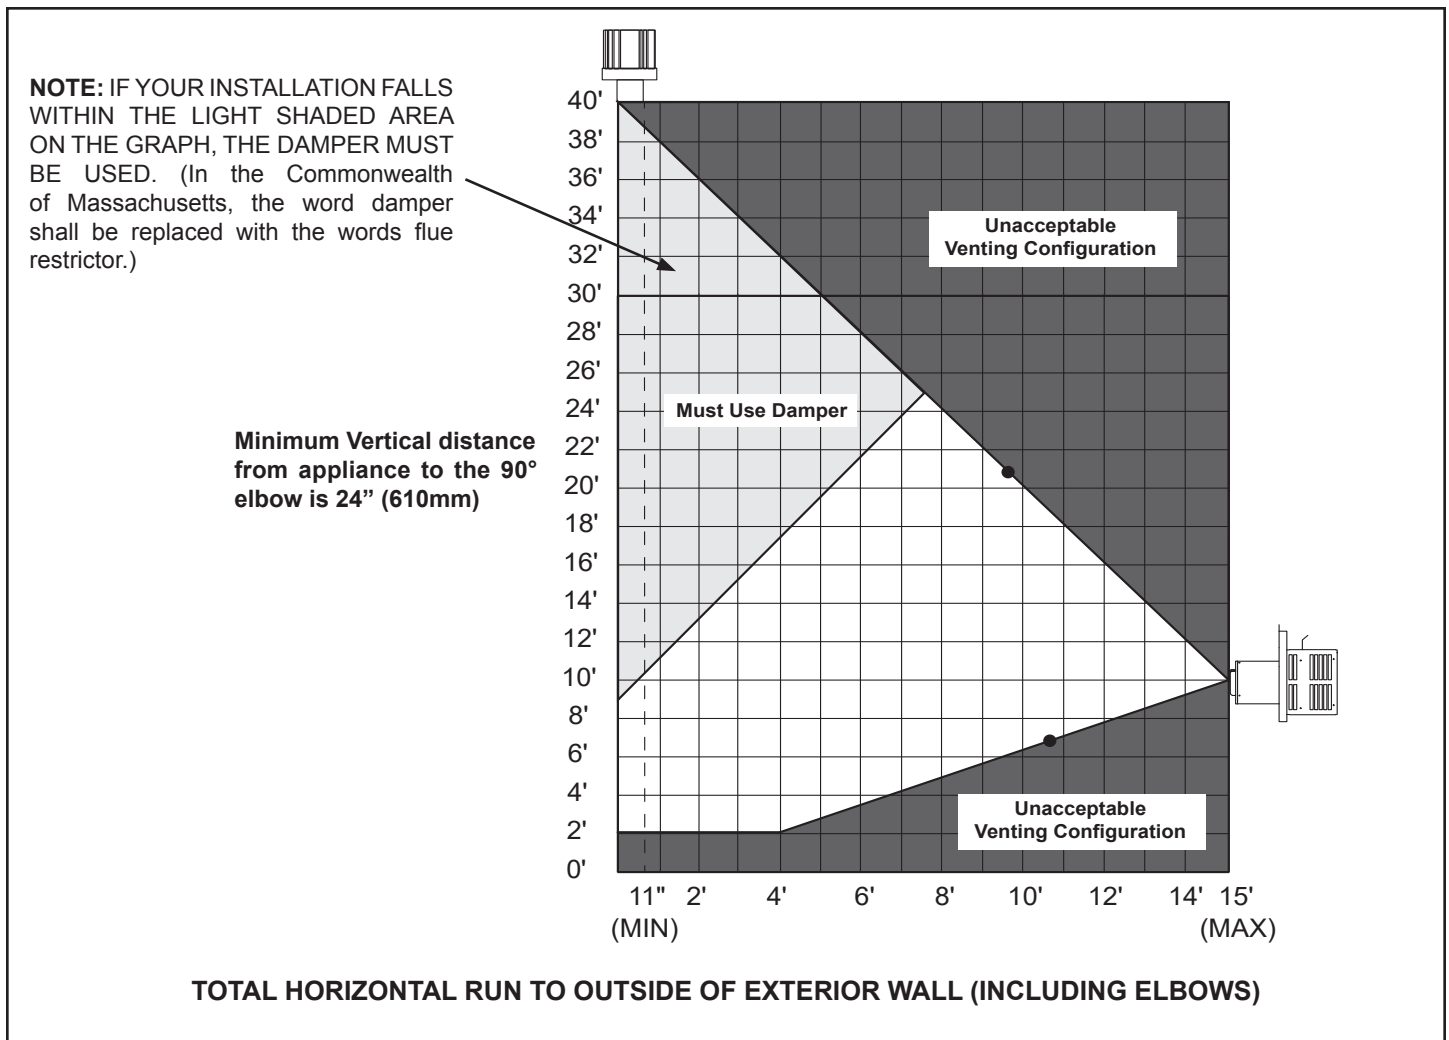
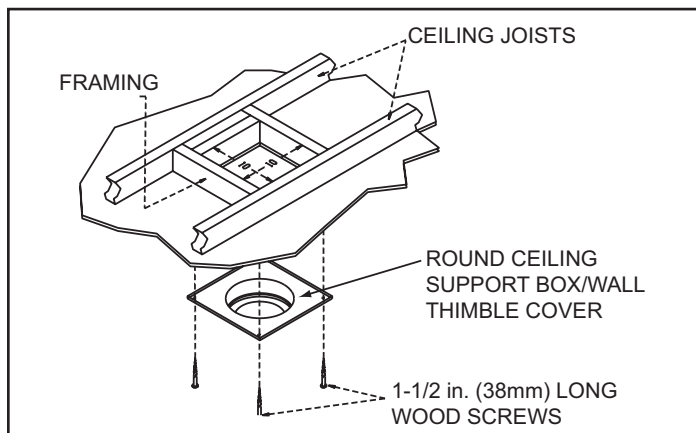
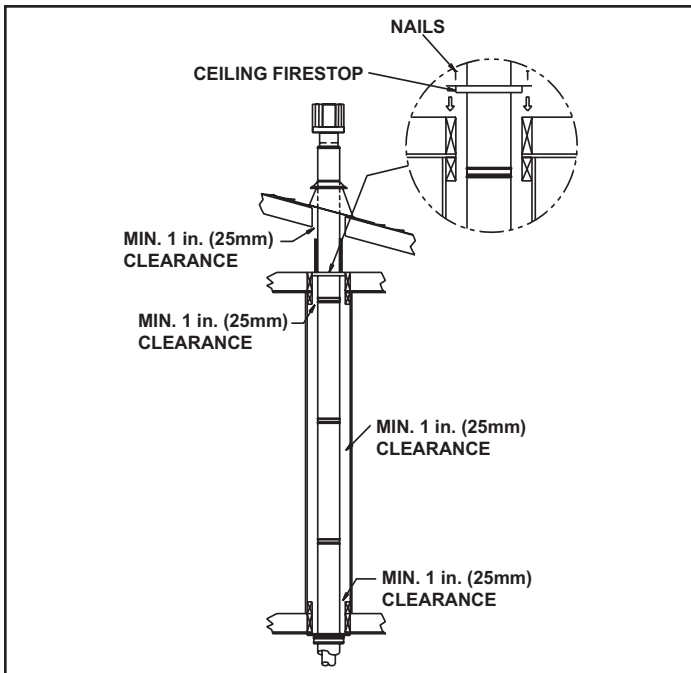

Figure 5.2
Figure 5.13
Figure 5.16
Step 1 - Check the installation instructions for required 1 in. (25mm) clearances (air space) to combustibles when passing through ceilings, walls, roofs, enclosures, attic rafters, or other nearby combustible surfaces. See Figure 5.16. Check the instructions below for maximum vertical rise of the venting system, and any maximum horizontal offset limitations. All offsets must fall within the set parameters of the vent graph, Figure 5.2.
Step 3 - To install the round support box/wall thimble cover in a flat ceiling, cut a 10 in. (254mm) square hole in the ceiling, centered on the hole drilled in Step 2. Frame the hole as shown in Figure 5.13.
Note: For multi-story vertical installations, a ceiling firestop is required at the second floor, and any subsequent floors (Figure 5.16). The opening should be framed to 10 in. x 10 in. (254mm x 254mm) inside dimensions, in the same manner as shown in Figure 5.13.